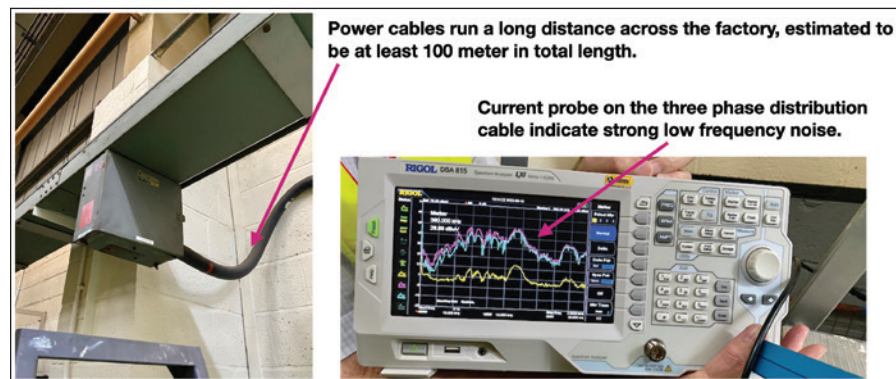

Figure 2: Location of noise source and receiver readings
Using a portable radio, I selected a frequency of 550kHz medium wave (MW) empty channel and walked around at the factory site while listening carefully to the receiver sound. I was able to locate the noise source shown in Figure 2.